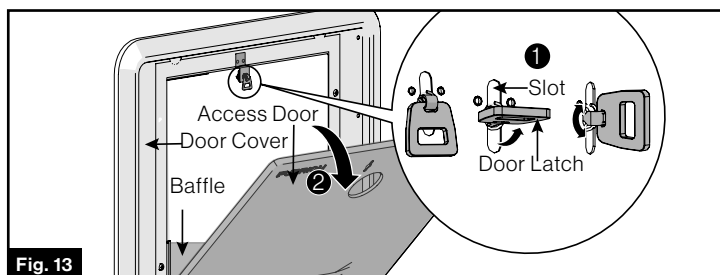

Fig. 13
- Remove the access door and frame from the box, separate the components. (Fig. 13)
- Step ① : separate the access door from the mounting frame. Lift the latch and rotate 90° to unlock the door cover from the trim.
- Step ②: Pull the access door from the mounting frame.